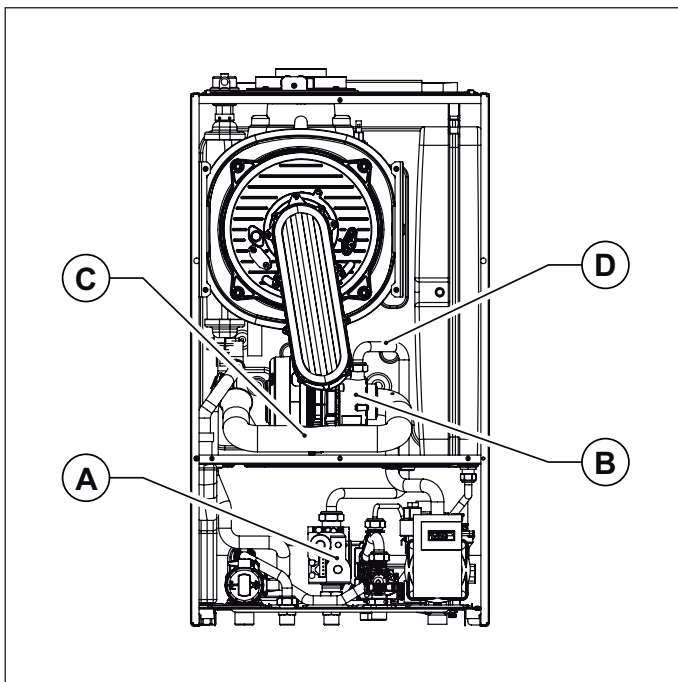

Fig. 36 Intake pipe
- Loosen the screw securing intake pipe to mixer, and remove pipe (see Fig. 36 Intake pipe).
- Disconnect the gas pipe from the mixer (see Fig. 36 Intake pipe).